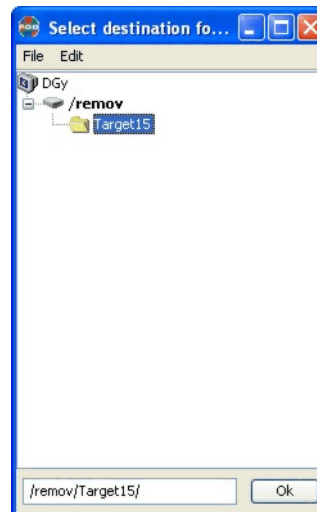

Figure 4-10 FTP Upload Destination Folder
4. Click on the **Browse** button next to the **Destination** box to navigate to the destination location within the *DGy 201x* for the transferred files and click **Ok**. See Figure 4-10. Alternatively, if the complete path is known, it can be typed directly into the **Destination** entry box.